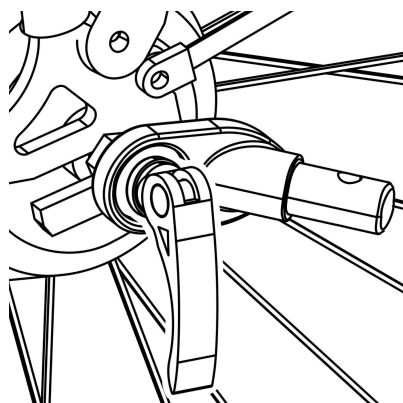

Figure 10
1. Quick-release Axle: Remove the quick-release from the left side of bike's rear axle. Install the hitch between the quick-release and frame. Tighten the quick-release following the bike manufacturer's manual. Hitch can remain on the bike when the trailer is removed (Figure 10).